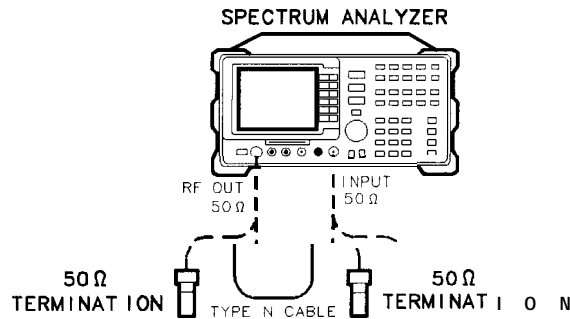

Figure 2-98. Tracking Generator Feedthrough Test Setup
1. Connect the Type N cable between the RF OUT 50  $\Omega$  and INPUT 50  $\Omega$  connectors on the spectrum analyzer. See Figure 2-98.
- SRC PWR ON OFF (ON)** -5 (dBm)